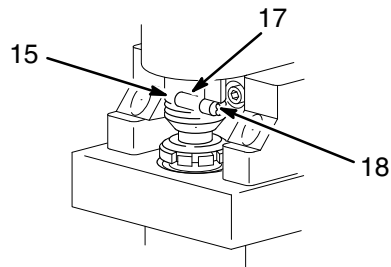

Fig. 25
2. Try to stop the pump with the piston rod (107) in its lowest position. To lower the piston rod manually, rotate the motor fan blades. Use a screwdriver to push the retaining spring (18) up and push out the pin (17). See Fig. 25.